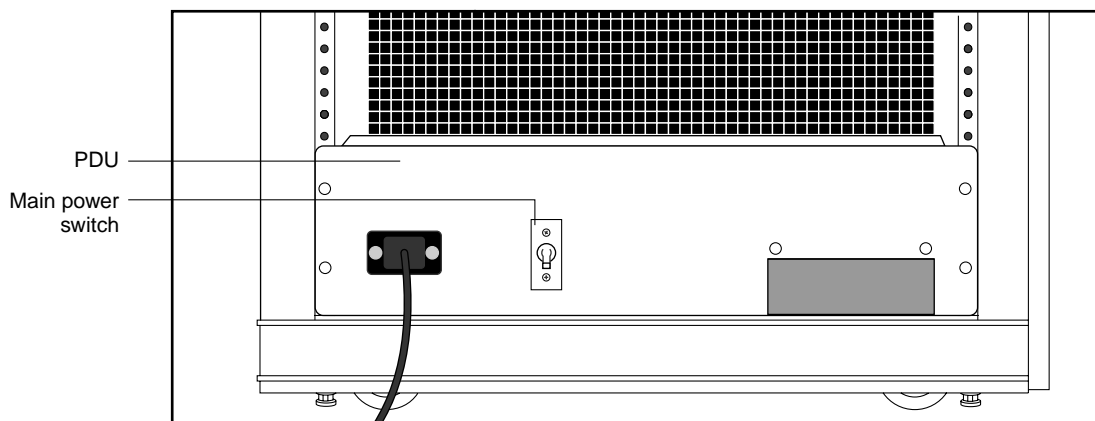

Figure 20. Locating the power switch on the NS 7000/060
1. Locate the main power switch on the PDU inside the back door at the bottom of the expansion cabinet. Set this switch to OFF (O) (see Figure 20).